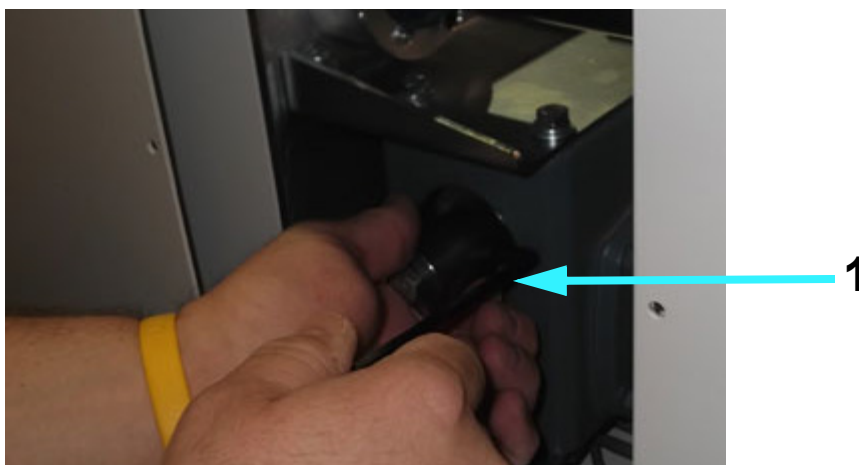

Figure 5-9. Black Clamping Screw
- 9 Using pliers or vise grips, hold the override coupling while securely tightening the black clamping screw (1 in Figure 5-9).